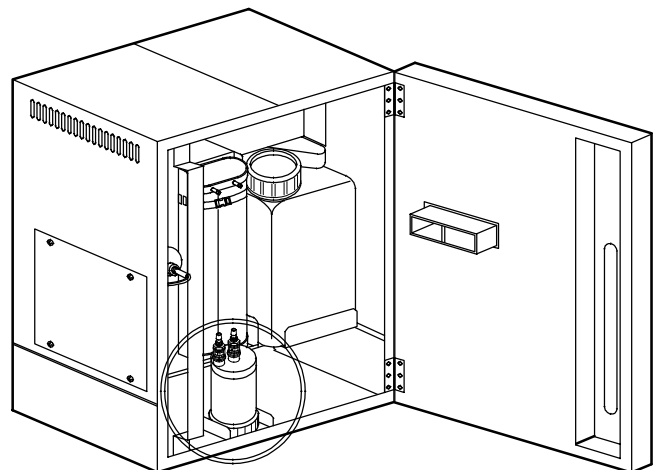

Fig.04
- (6) After you finish the connection, set the pre-treatment cartridge at the left side before the distilled water tank, as the picture shows. Be careful not to bend the hose.(See Fig.04)